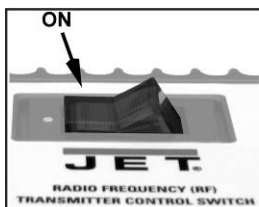

Figure 12A
3. On the main unit place the switch to the *ON* position (Figure 12A). The red LED on the main unit should light up.